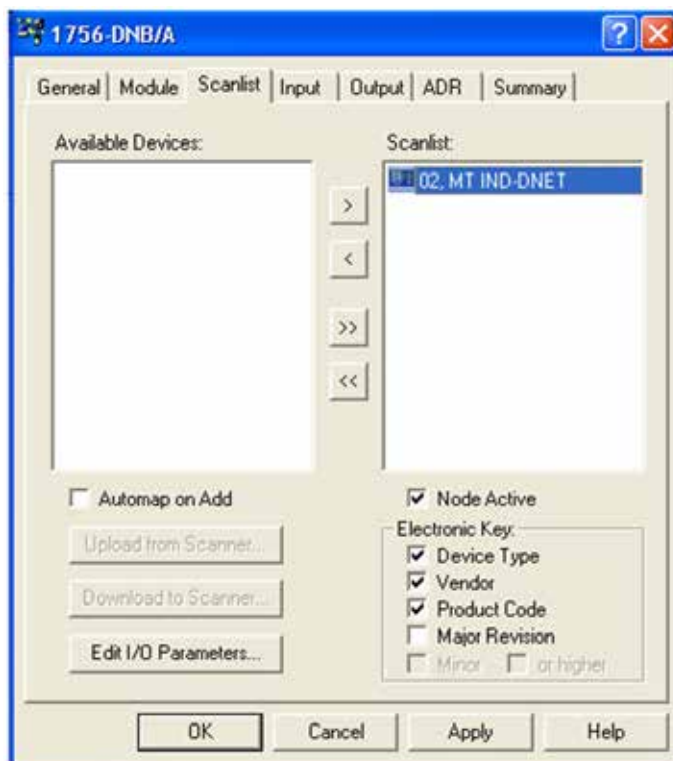

Figure 3-18: IND Terminal Added to Scanlist
8. Highlight the IND Terminal (MT IND-DNET) and left-click to add it to the Scanlist. Once the IND Terminal is added, it will appear in the right pane (Figure 3-18). Click OK.
9. The next step is to edit the I/O parameters of the IND terminal, by clicking on the **Edit I/O Parameters** button visible in Figure 3-18. The I/O size depends on the data type and the number of slots selected in the terminal. Note that slots is a terminal phrase that isn't used in typical DeviceNet terms; it was derived from previous PLC memory mapping. It is used in the terminal setup to remain consistent across the METTLER TOLEDO terminal line. Integer or Divisions with one slot will be 4 bytes/in 4 bytes out. Integer or Division with 2 slots is 8 bytes in/8 bytes out. Float is always 8 bytes in and out.